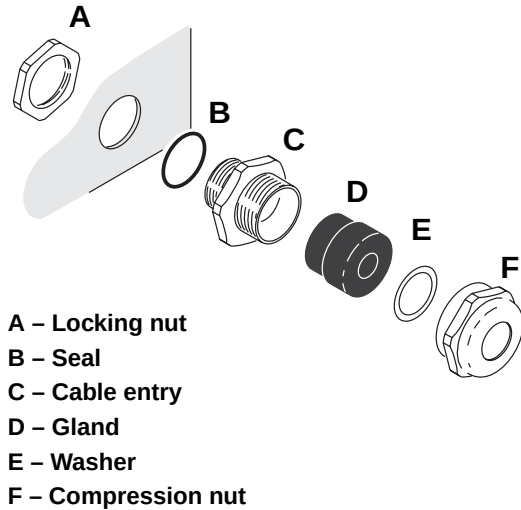

Figure 9: Cable gland assembly
4. See Figure 9. Ensure that there is a rubber seal **B** on the locking nut end of the cable entry **C**, and push this end through the hole provided in the housing so that the seal faces the outer surface of the housing.